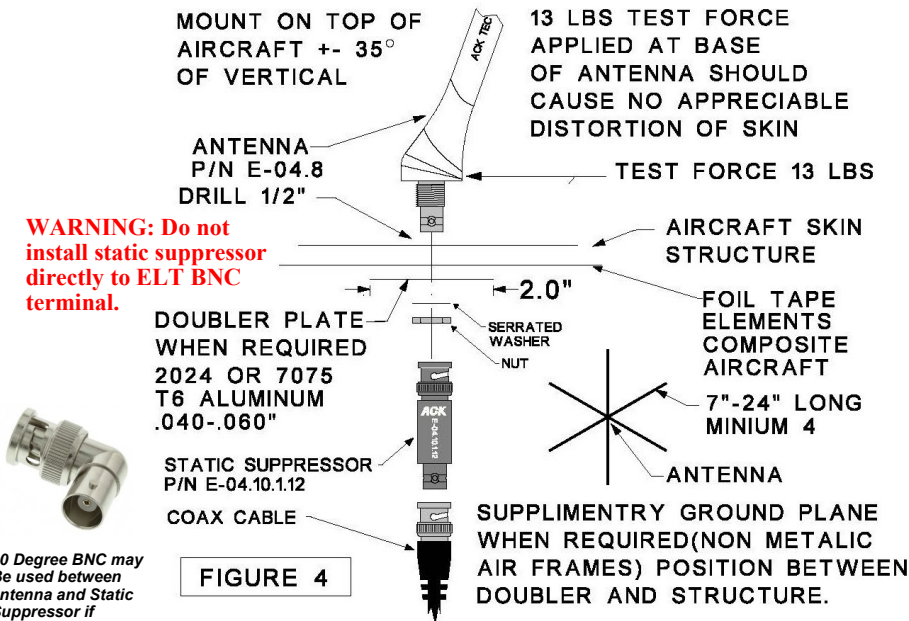

FIGURE 4
- 1.) Drill a 1/2" (13mm) diameter hole in the aircraft at the antenna mounting location (Fig. 4)
- 3.) If the antenna is being mounted on a non conductive portion of the airframe, a supplementary ground plane must be installed. The supplemental ground plane must have a minimum diameter of 14" or more however 48" will provide maximum power at 121.5 MHz and is recommended. The ground plane must be centered around the base of the antenna. This may be fabricated out of copper, or aluminum tape. The tape should be cut into six elements 12" long, and the tape elements should be evenly spaced, radiating in a circular pattern from the base mounting point of the antenna. (Fig. 4) Make sure all elements are electrically bonded to the base of the antenna. The tape may follow the contour of the fuselage. The metallic airframe of fabric covered aircraft may be used as the ground plane. When installing the antenna, make sure the base of the antenna is electrically bonded to the tubing frame. A static suppressor is supplied install as shown in (Fig. 4)
- 4.) Assemble the antenna as shown in figure 4. Make sure the rubber washer that forms a moisture seal between the antenna base, and aircraft structure, is in place before installing the antenna. Also make sure the serrated locking washer is in place. If the aircraft skin at the mounting point is less than .060" thick when installing the P/N E-04.8 whip antenna, a 2" diameter doubler plate must be fabricated using .040" thick 2024, or 7075 T6 aluminum.